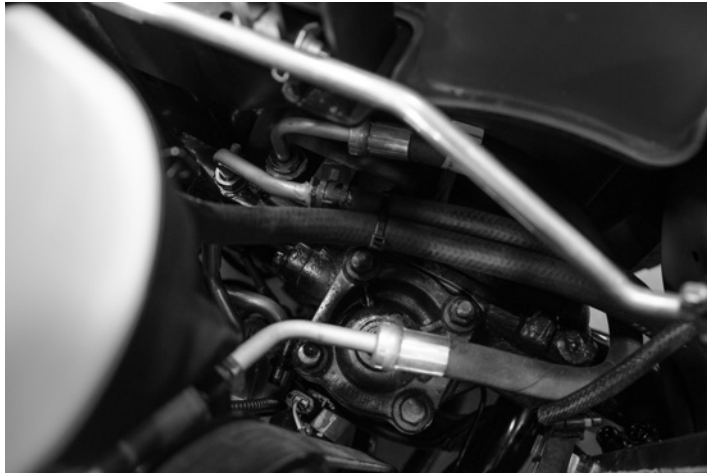

Figure 40
11. Cut the hose and then install the hoses for the power steering lines (fig 40).